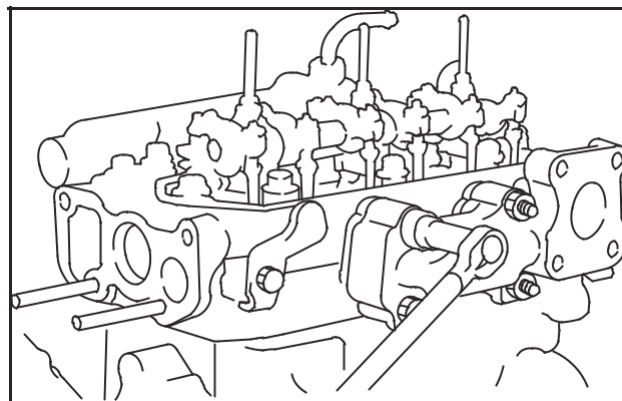

Fig. 38 – Install Exhaust Manifold
7. Install exhaust manifold with new gasket, Fig. 38.